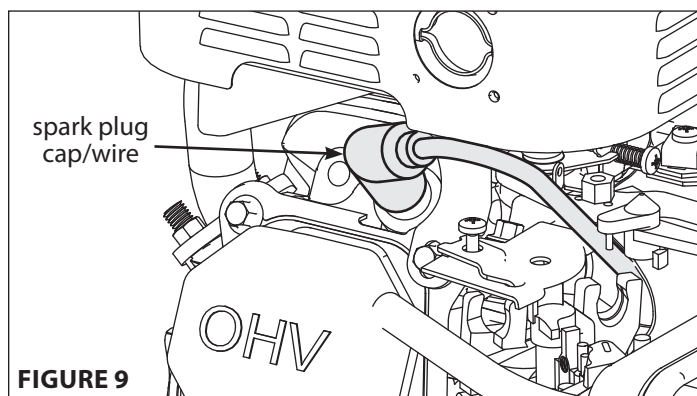

FIGURE 9
1. Detach spark plug cap/wire and move away from spark plug. **SEE FIGURE 9**
4. After analysis, seat spark plug and tighten with spark plug wrench to compress the sealing washer. **SEE FIGURE 9 on previous page.**